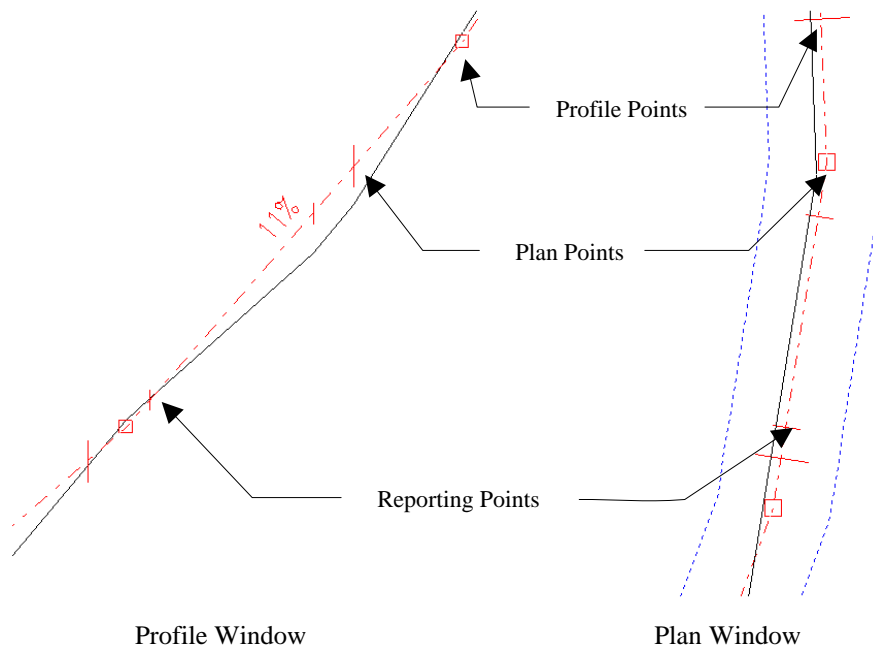

Figure 1.2: Profile and Plan Windows Showing All Three-point Types
- ◆ **Profile Points (VIP = Vertical Intersection Point):** These points are created in the Profile Window and they define the vertical alignment of the L-Line. They have no effect on the horizontal alignment. Profile points are represented as red boxes in the Profile Window and large red ticks in the Plan Window. (See Figure 1.2)
- ◆ **Plan Points (IP = Intersection Point):** These points are created in the Plan Window and they define the horizontal alignment of the L-Line. They have almost no effect on the vertical alignment. Plan Points are represented as red boxes in the Plan Window and large red ticks in the Profile Window. (See Figure 1.2)
- ◆ **Design Points:** This is the term used to describe all alignment points (Plan, Profile or Report – see above). Cross sections are calculated at all Design Points to generate earthworks and graphic displays. (See Figure 1.2)
- ◆ **Reporting Points:** These points are usually created automatically but can be created manually in the Plan or Profile windows. They have no effect on alignment. Report Points are used to display cross sections and to allow a more accurate representation of earthworks and graphic displays. They are represented as small red tick marks in the Plan and Profile Windows. (See Figure 1.2)